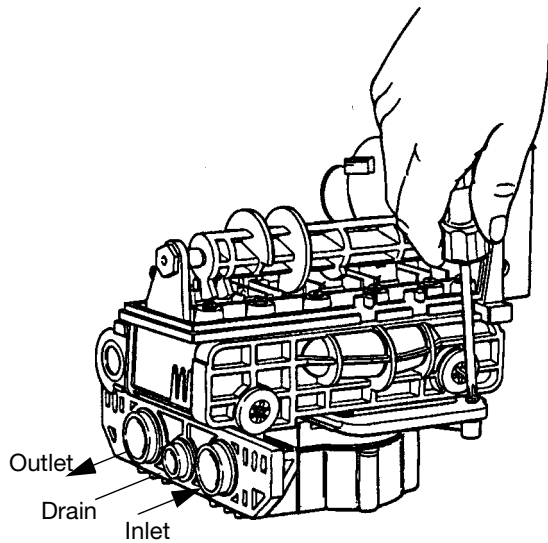

Figure 7
4. Remove the screw in the locking bar (Figure 7).